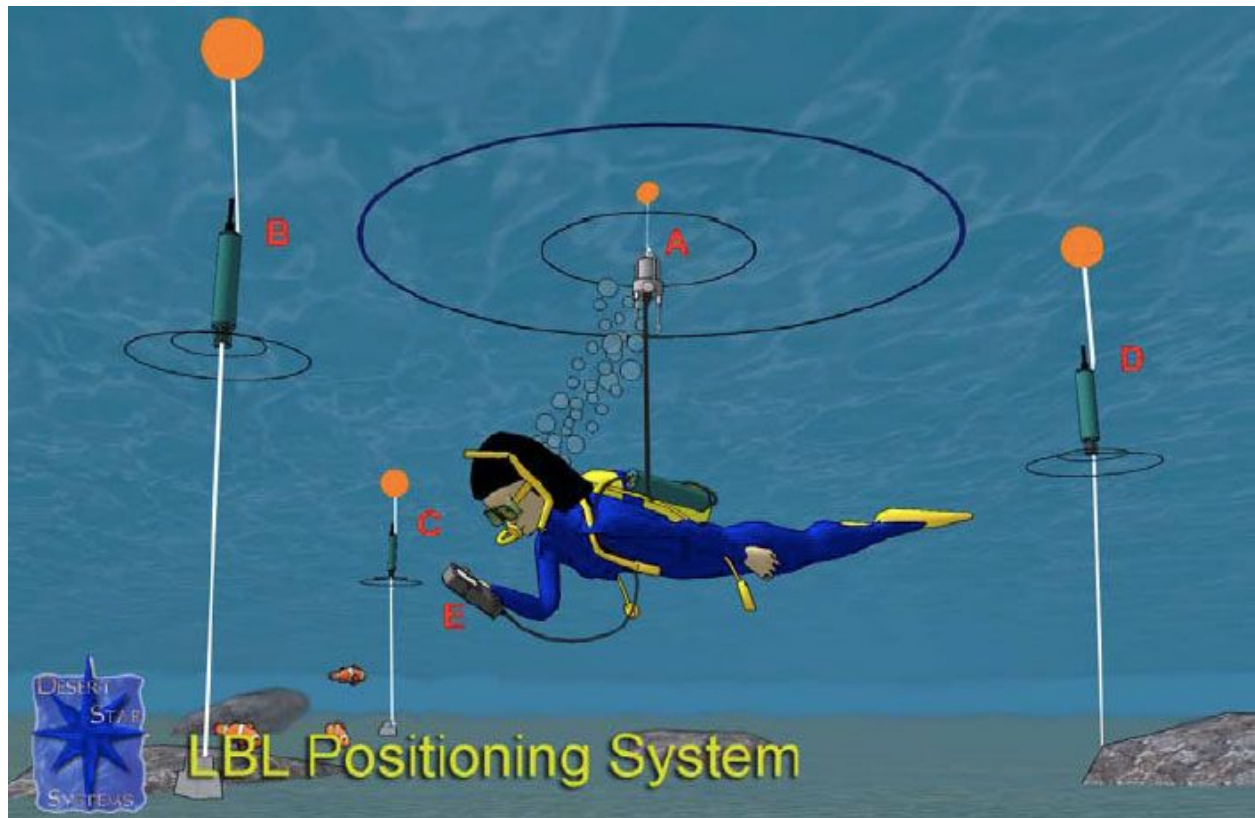

Figure 1: An AquaMap™ Diver system with three baseline stations
AquaMap™ Diver is a Long Baseline acoustic precision navigation and surveying system. In many ways it can be compared to a GPS system, but for use underwater. As with a modern GPS receiver, the DS-3 diver terminal shows the diver's current position and track on a map display. And while GPS receivers measure positions by evaluating the signals received from multiple satellites, AquaMap™ Diver relies on a network of three or four underwater baseline stations to perform a similar job. However, while GPS does not require the individual user to launch his own satellites before he can use his receiver, no one has deployed an equivalent network of underwater baseline stations around the globe. And for this reason, the diver needs to mount and then survey these stations before operations can proceed. This is shown in figure 1, where the diver operates within a network of three baseline stations (B, C, D) mounted near the corners of a survey site. The sonar transducer of the diver station (A) interrogates these baseline stations, and after receiving the replies, the diver terminal (E) computes distance to each baseline station and from that triangulates the diver position for display.